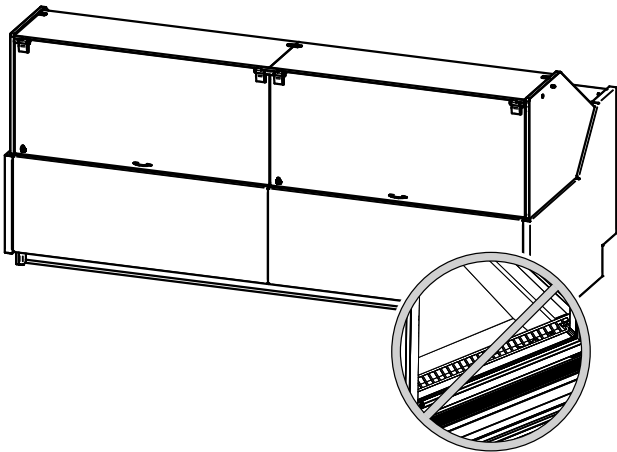

Fig. 24
- The goods do not obstruct the correct flow of refrigerated air ("Fig. 24").